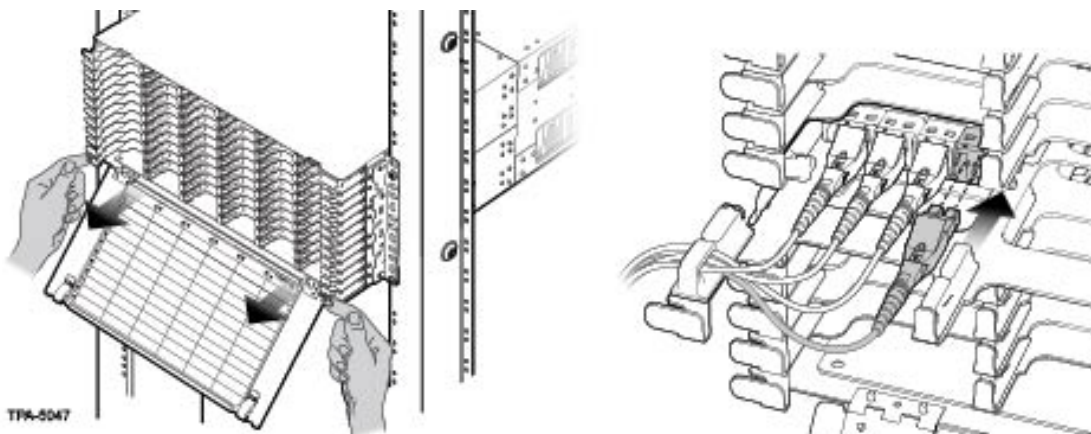

Figure 22 — Mate Jumpers and Route Legs
**Step 1:** Open housing front door and pull out tray (Figure 22).
**Step 4:** Route jumper legs, half to the right and half to the left side of the housing. (Do NOT cross legs in opposite directions.) Store legs in clips at front of tray (Figure 22).